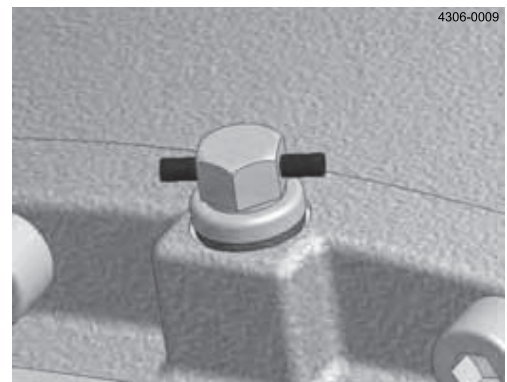

Figure 1. Un-activated vent plug - remove before operation
- Control for oil leakage on gears – leave vent plugs in gear until gear is installed and in correct position (see Figure 1).